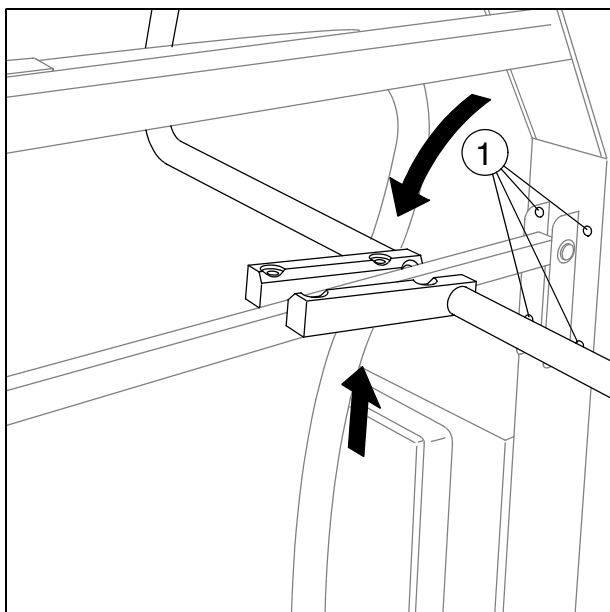
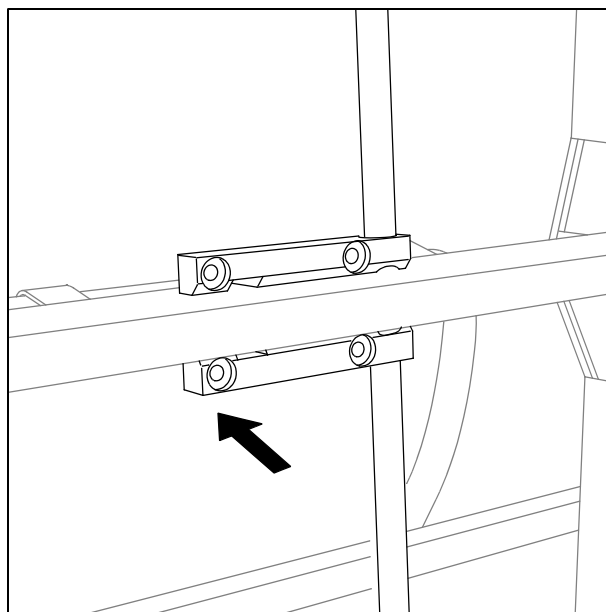

Fig. 2
Fig. 3
- Remove the 4 Allen screws (1/Fig.2) in the handle and remove the handle (refer to Fig.2 and Fig.3).